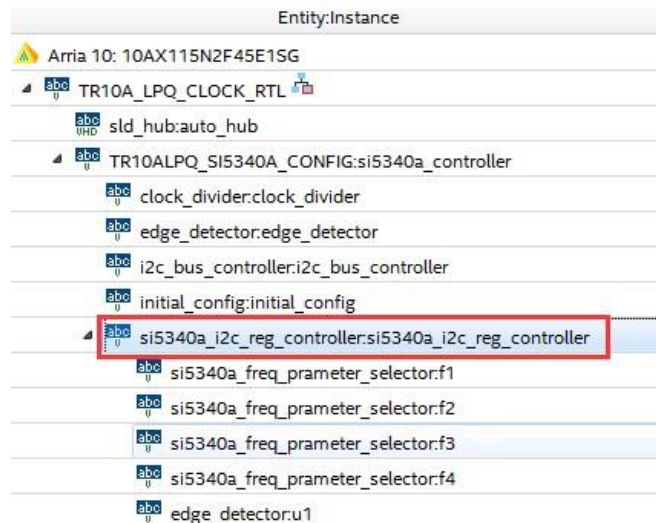

Figure 4-6 Sub-Module file "si5340a_i2c_reg_controller.v"
- Open Si5340A control IP sub-module “si5340a_i2c_reg_controller.v “ as shown in **Figure 4-6**, refer Design Report parameter to modify sub-module corresponding register value (See **Figure 4-7**).